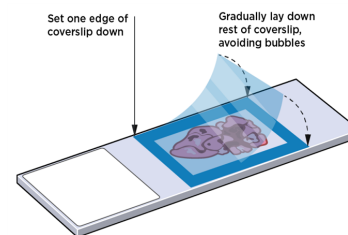

Figure 40: Apply Incubation Frame Cover
Start by adding the hybridization solution to the edge of the tissue opposite of the slide label within the frame. Applying the incubation frame cover will help move the hybridization solution across the tissue (Figure 40).
- **Carefully apply incubation frame cover** (Figure 40). Start by setting one edge of the cover down on the incubation frame edge, then gradually lay down the rest of the cover. The tab on the incubation frame cover should face the slide label. As it's lowered, the frame cover should naturally adhere to the incubation frame; no additional pressure around the frame is needed. **Do not press the center of the cover as it could damage the tissue.**